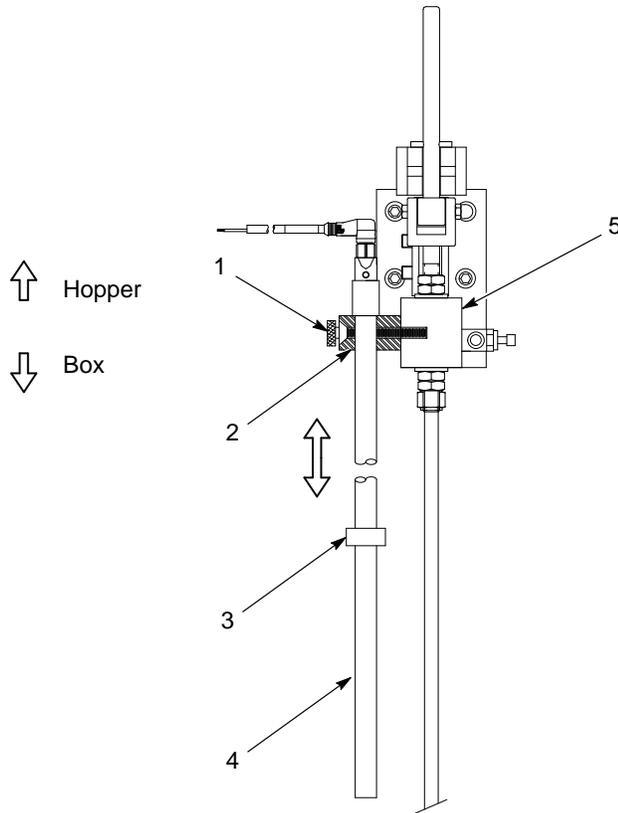

Figure 10-1 Level Sensor Probe Adjustment
- See Figure 10-1. Loosen the thumb screw (1). Slide the level sensor probe (4) up until the collar (3) stops against the bottom of the probe bracket (2), then tighten the thumb screw.